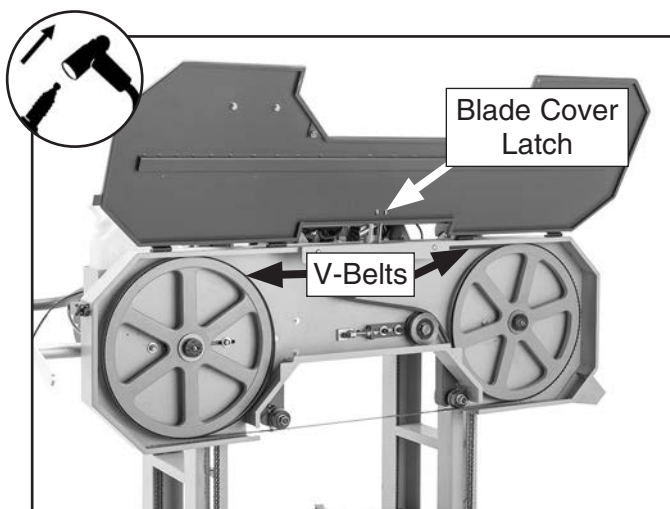

Figure 74. Blade cover supported by blade cover latch and location of V-belts.
2. Open blade cover and secure to blade cover latch (see **Figure 74**).
3. Rotate wheels by hand and observe blade position. Blade should track on wheels so rear of blade is aligned with rear edge of V-belts (see **Figure 74**)